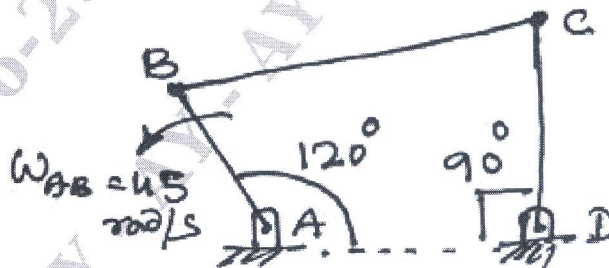

Fig.Q5(a)
- 5 a. A four bar mechanism ABCD is as shown in Fig.Q5(a). Find the angular velocities of links BC and CD by vector algebra method if $\omega_{AB} = 45$ rad/sec in counter clockwise direction. (10 Marks)